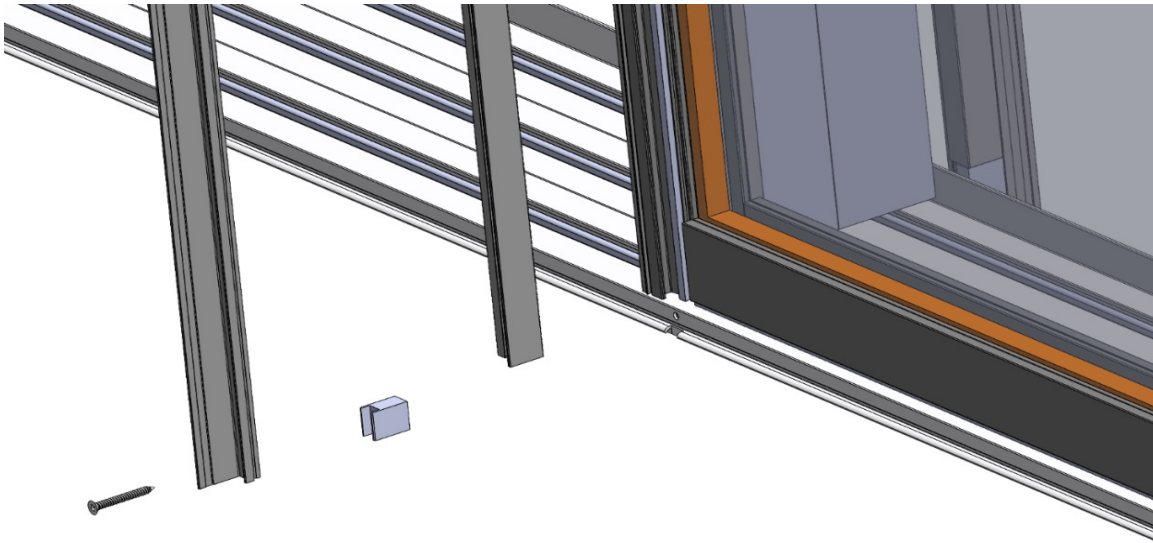

Figure 1
6. Locate the drilled holes on the outside face of the threshold and position the exterior post interlock frame member/s vertically so the holes in the threshold align with the holes in the post interlock/s. Observe the space between the exterior pocket walls and the nail fin/s of the post interlock/s. For single pocket doors adjust the threshold assembly so the space between the pocket wall and the post interlock nail fin, perpendicular to the plane of the door, is equal to the space between the end of the threshold assembly and the adjacent wall where the lock jamb will be mounted. For double pocket doors adjust the threshold assembly so the space between the pocket walls and the post interlock nail fins is equal. **Figure 1** shows the exploded view of the post interlocker assembly, consisting of the two-piece post interlocker, assembly screw, and spacer block. The groove in the spacer block should be facing away from the sill/head.
16. Install the post interlock frame member/s using the pre-drilled holes in the head and threshold. Raise or lower the head until the holes align properly. Anchor the post interlock members using #10 x 1.25" screws. **Figures 1 & 4** show the exploded view of the post interlocker assembly, consisting of the two-piece post interlocker, assembly screw, and spacer block. The groove in the spacer block should be facing away from the sill/head.